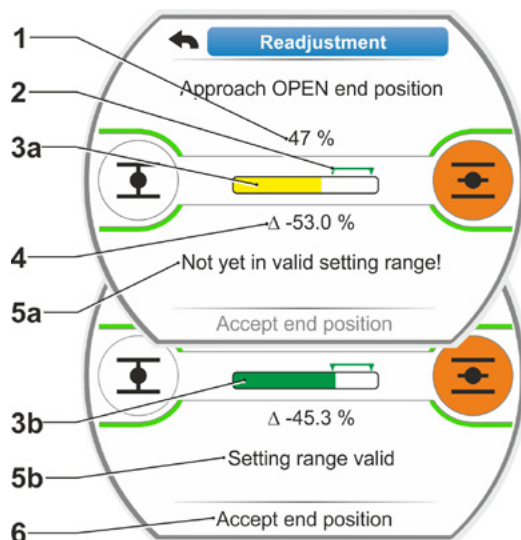

Fig. 3: Approach new end position
- Current position within the travel in percent (fig. 3, item 1);
- the valid setting range for the new end position (fig. 3, item 2);
- the progress bar* as graphic representation of the potentiometer signal (item 3a);
- deviation in percent from the currently valid end position (item 4).
- the valid setting range has not yet been reached (item 5a) or
- the setting range is valid (item 5b).